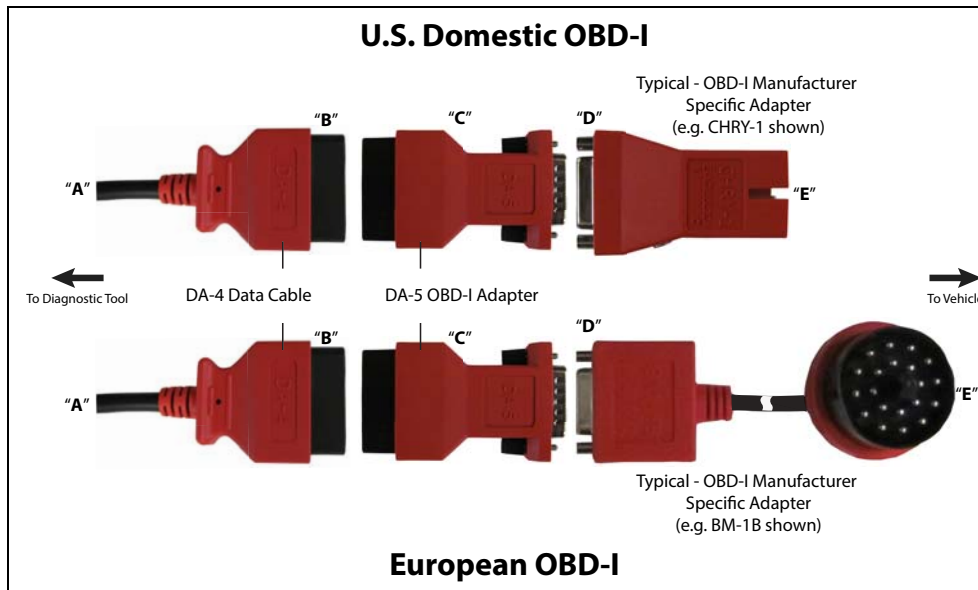

Figure 4-5 Typical connections using DA-5 adapter (two examples)
For most OBD-I (non-OBD-II/EOBD) compliant vehicles you can use the supplied DA-4 data cable with the optional DA-5 adapter and an optional manufacturer specific OBD-I adapter (*Figure 4-5*).
- The 26-pin end "A" of the DA-4 cable (*Figure 4-5*) connects to the diagnostic tool.
- The 16-pin end "B" of the DA-4 cable (*Figure 4-5*) connects to the DA-5 adapter "C".
- One end of the manufacturer specific adapter "D" (*Figure 4-5*) connects to the DA-5 adapter.
- The other end of the manufacturer specific adapter "E" (*Figure 4-5*) connects to the vehicle.